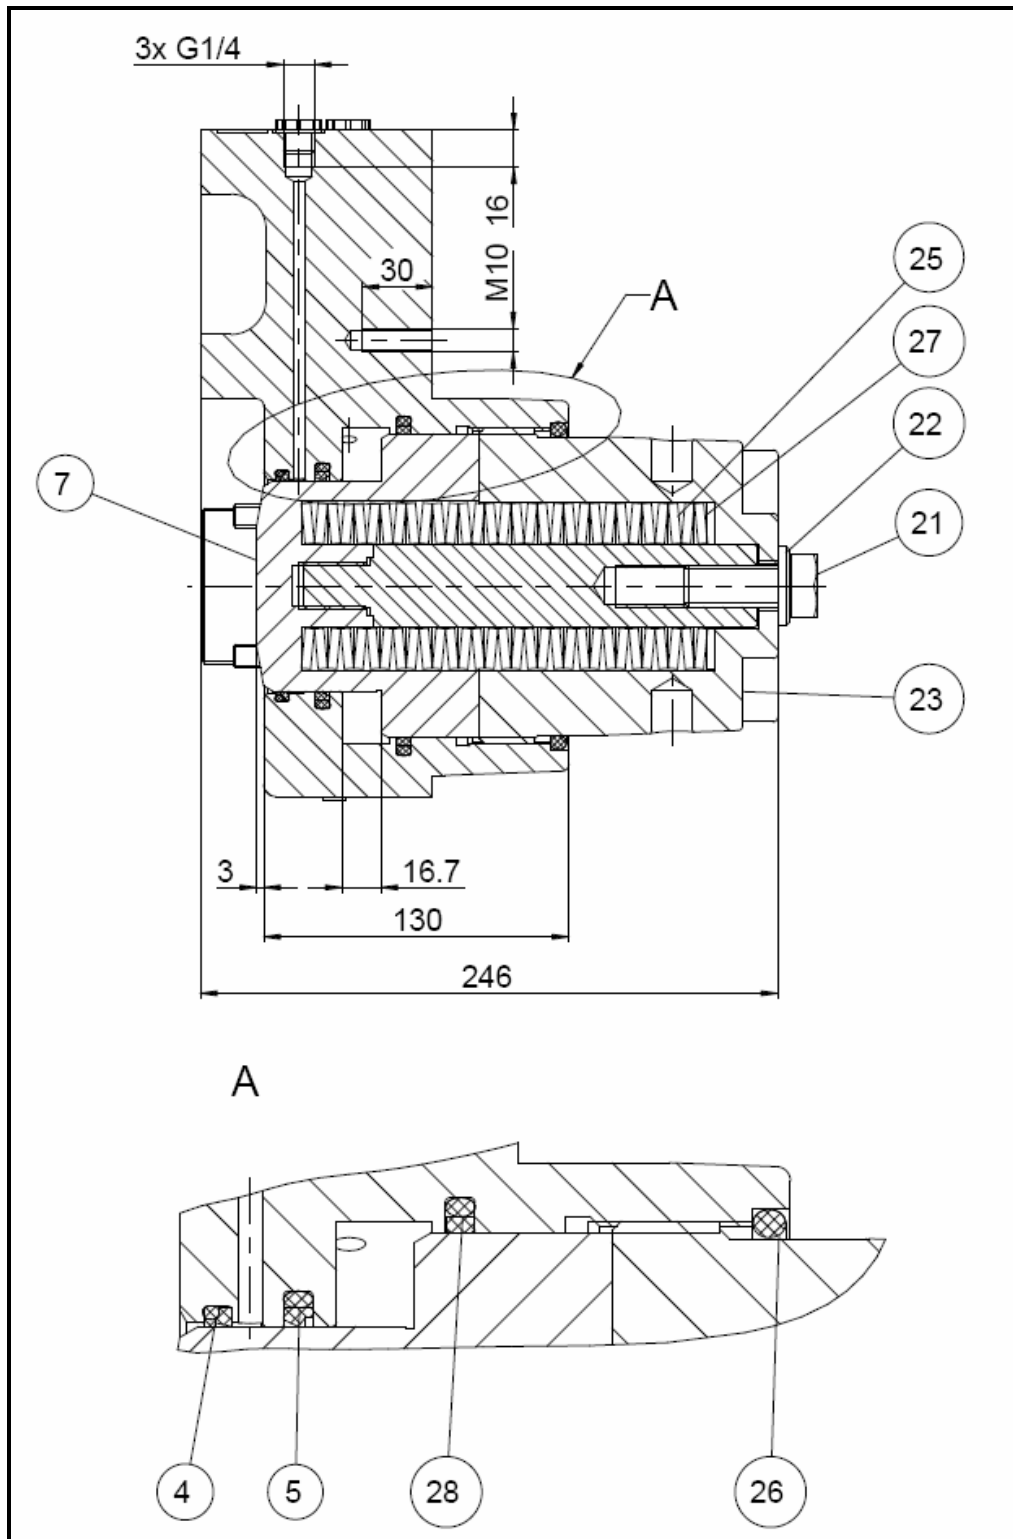

Fig. 12.2
Install the new seals in the brake saddle housing. Observe the correct position of each seal (Fig. 12.2). The seals should be installed by hand to avoid damaging the sealing edges. For easier installation, the seals can be bent into a kidney shape and set into the groove. Lubricate seals prior to installation with a light coat of Molykote MoS₂. Press the piston (Pos. 7) straight (centred) into the cylinder bore with a press or drive it with a plastic hammer to the stop point. After installing the disc springs (lubricated with Molykote MoS₂) and the support discs, insert the spring receiver lubricated with a light coat of Molykote (Pos. 23) into the brake saddle housing (pos. 2) to dimension 246 as shown in Fig. 12.2. Then pretense the disc springs with the assembly locking screw M18x1.5x60 (Pos. 21) and the washer A 18 (Pos. 22). To facilitate installation of the assembly locking screws, apply hydraulic pressure to the brake saddle and then install the assembly locking screw M18x1.5x60 (Pos. 21) and the washer A 18 (Pos. 22). The last step is to fit the O-ring (Pos. 26) into the housing again.